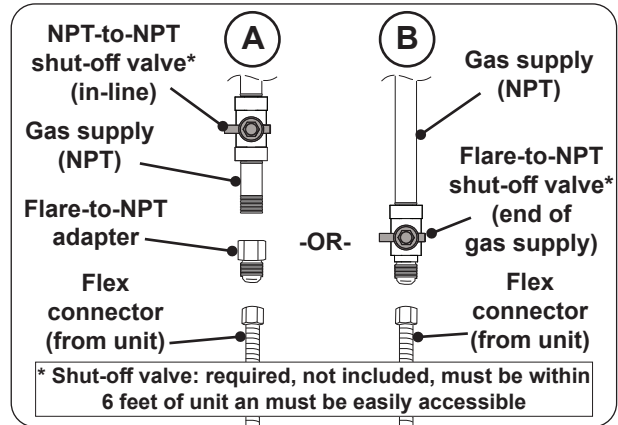

Fig. 24-2 Connecting to a gas line
- Install a flare-to-NPT adapter (not included) to the gas supply (NPT) using a pipe joint compound resistant to all gasses (see Fig. 24-2, A). Tighten securely.
- Connect the flex connector to the adapter (see Fig. 24-2, A). Tighten securely.
- Connect the flex connector to the shut-off valve (flare) (see Fig. 24-2, B). Tighten securely.